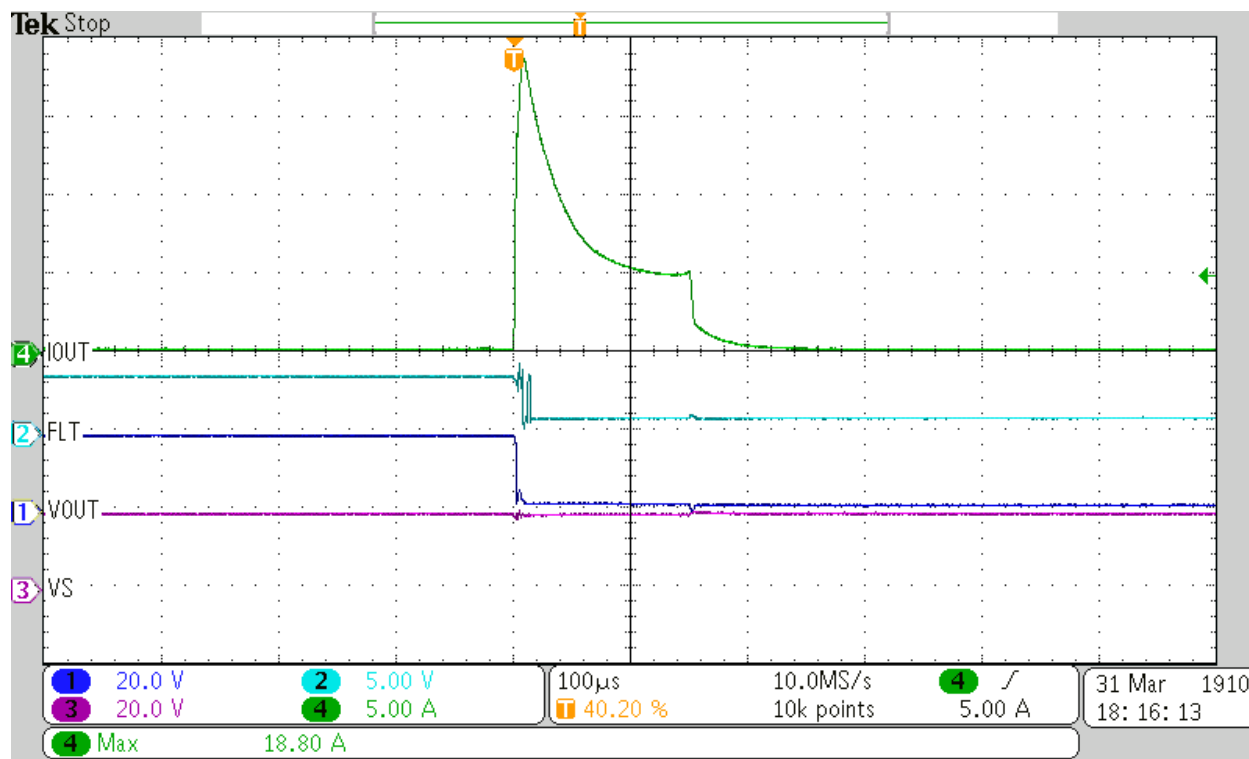
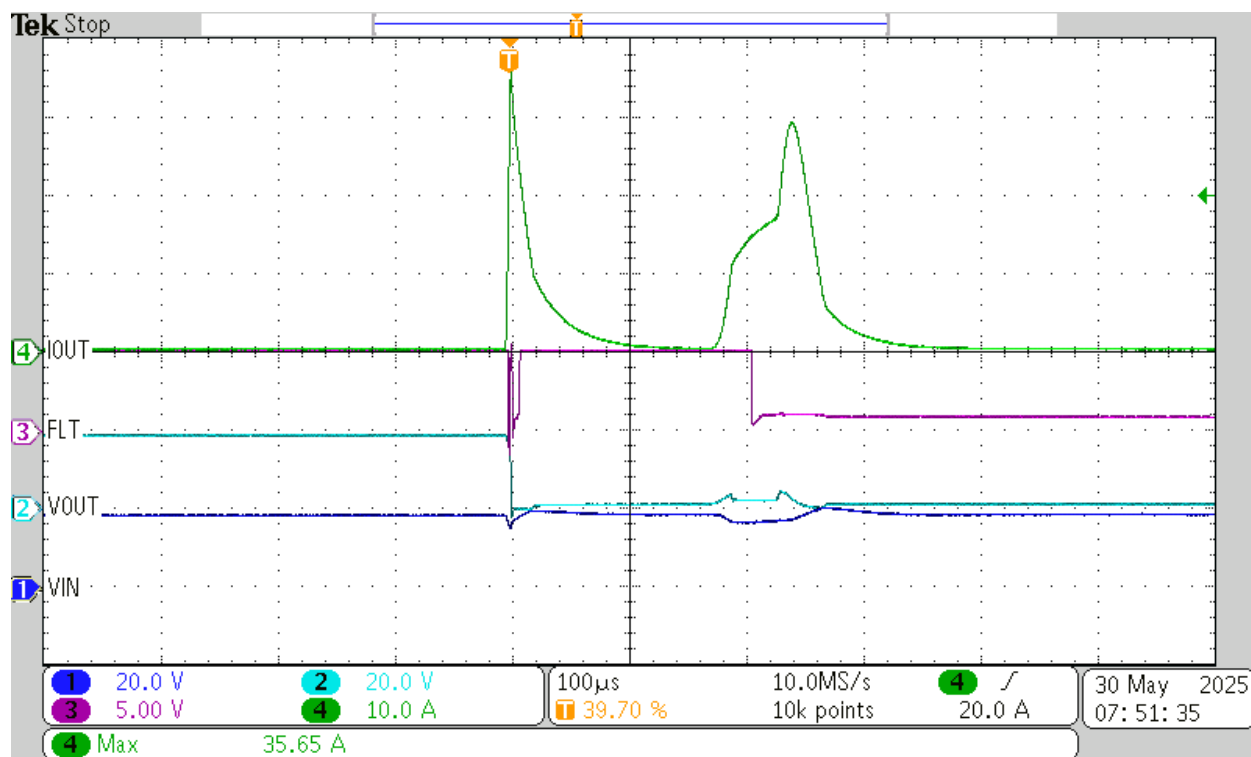

Figure 3-2. TPS1HC100 at 18V-0.2uH-43mΩ
Figure 3-4. TPS2HC08 at 18V-0.2µH-43mΩ
As each device passed, the waveforms varied across each short. The key here is the on state resistance (RDS(ON)) of each high side switch. Lower RDS(ON) is typically better for normal operation this means there is lower power dissipation, but allows more current in a short which stress the device. Figure 3-2 through Figure 3-4 display the 18V waveform for each device shorted with the lowest resistance and inductance. This is the highest input voltage specified in the recommended operating conditions of each high side switch.